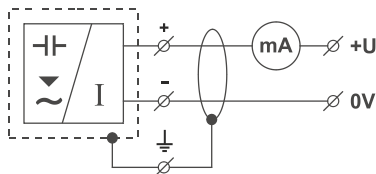

Fig. 11: Connection diagram of level meter with current output CPC-C-70\_--\_I
5. Connect the cable to threaded terminals, as shown in the diagram in Fig. 11. Tighten the terminals and cable gland firmly. For the tightening torque, see the Technical Specifications.